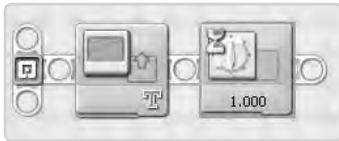

Figure 2-12: The program with the Wait Time block added
1. Drag a Wait Time block onto the Beam to the right of the Display block. Your program should look like Figure 2-12.